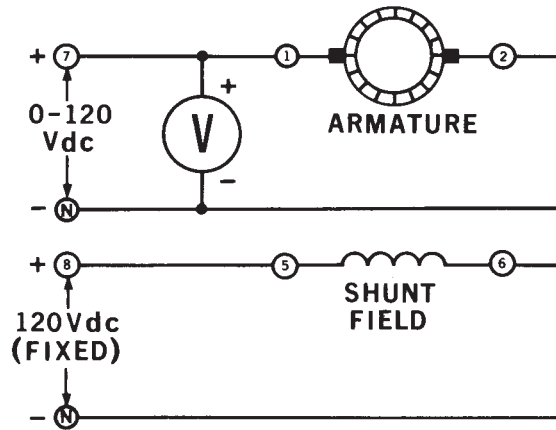

Figure 3-5.
- 19. Connect the circuit shown in Figure 3-5. Note that the armature is connected to the variable 0-120 V dc output (terminals 7 and N) while the shunt field is now connected to the fixed 120 V dc output (terminals 8 and N).